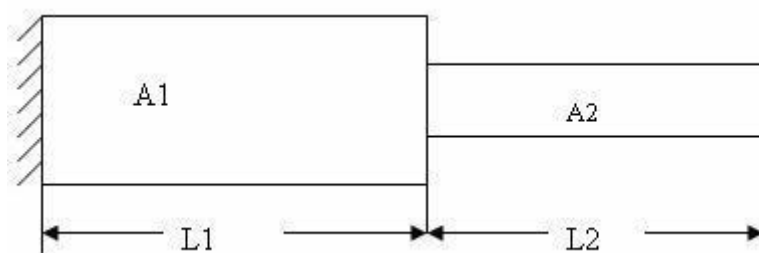

Fig: 8
8. Determine natural frequencies and corresponding mode shapes for the figure 8.